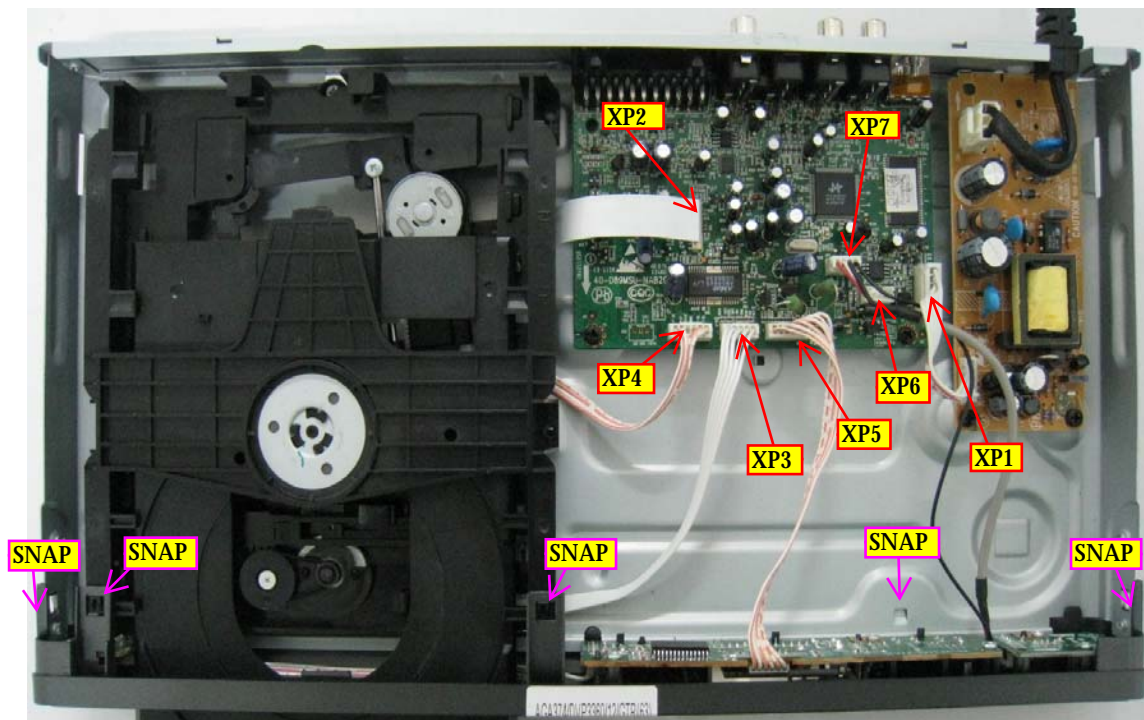
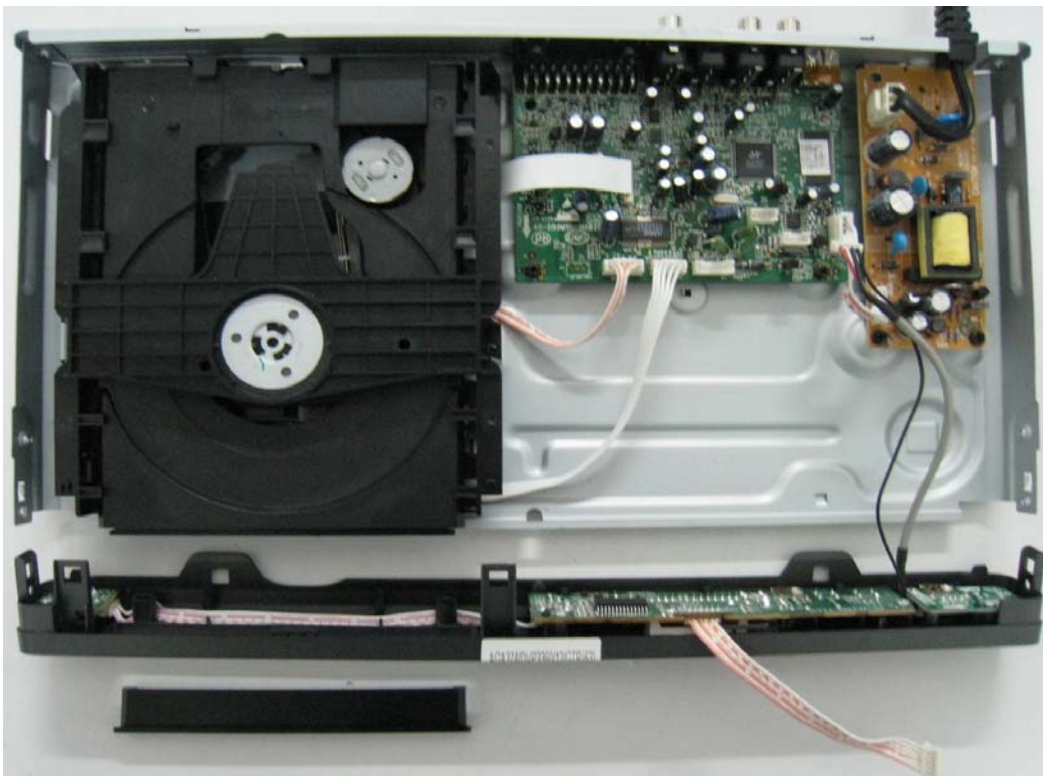

Figure 4
Figure 6
Step4: Dismantling Front Panel, disconnect the connectors (XP5, XP6, XP7), need release 4 snaps of Front Panel and 2 snaps of bottom cabinet, then gently pull the Panel out from the set. (Figure 4 - Figure 6)